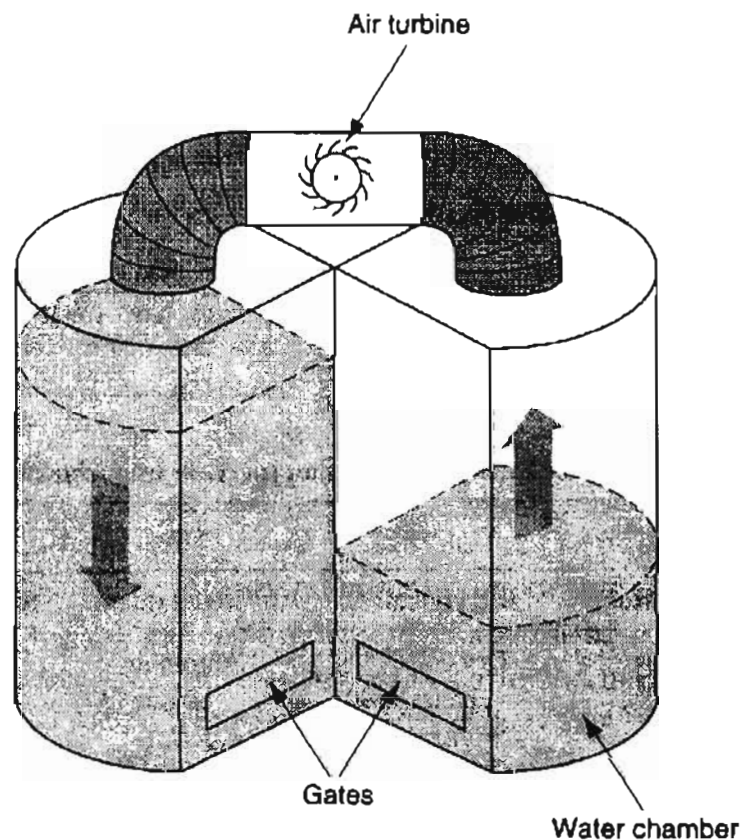

Figure DP27.1P1
- Discuss the feasibility of the following novel proposal as a way to extract energy from river flow that would not require large dams. See Figure DP27.1P1. The apparatus consists of a pair of tall chambers connected at the top by a tube containing an air turbine the diameter of a dinner plate. As the water flows through the system, one chamber fills, pushing air past one side of the turbine; the other side empties, sucking air from the tube.